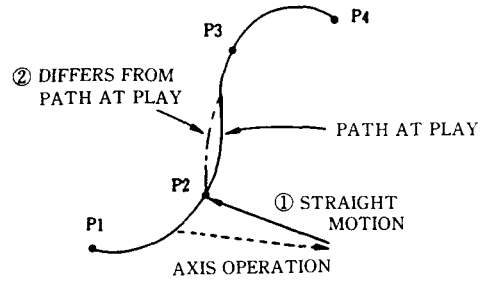

Fig. A 3 . 10
- When the manipulator is executed cursor shift or search operation, it moves in the same path as shown in Fig. A 3 . 10.
(5) Inform instruction